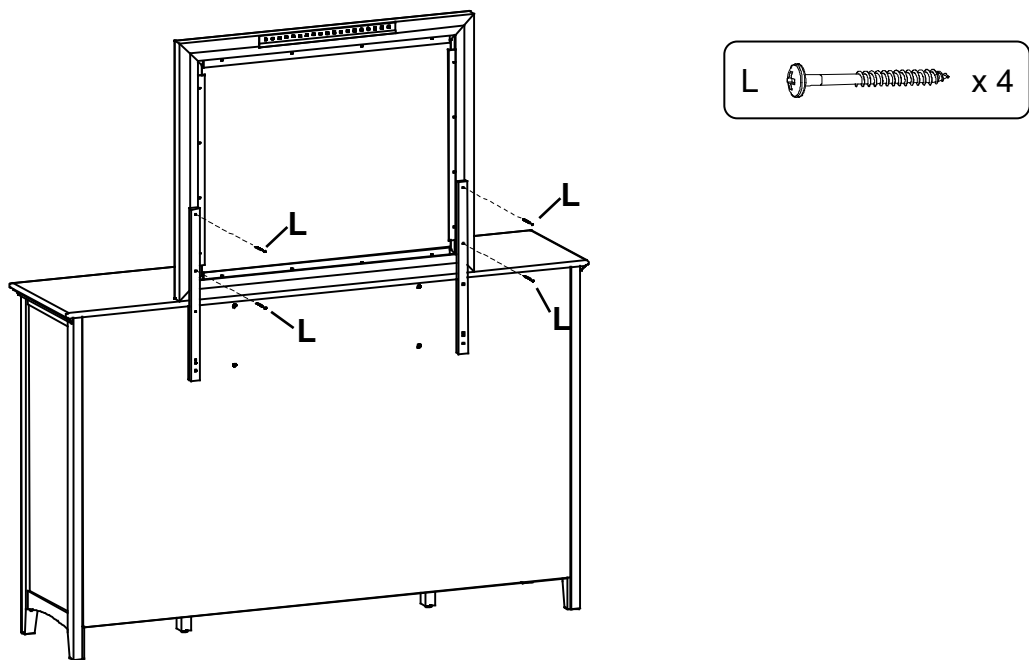

Fig. 10
10. Place the Mirror on top of the Dresser and attach it to the Mirror Supports (F) with four #7 x 1-1/2" Black Pan Head Screws (L). See Figure 10.